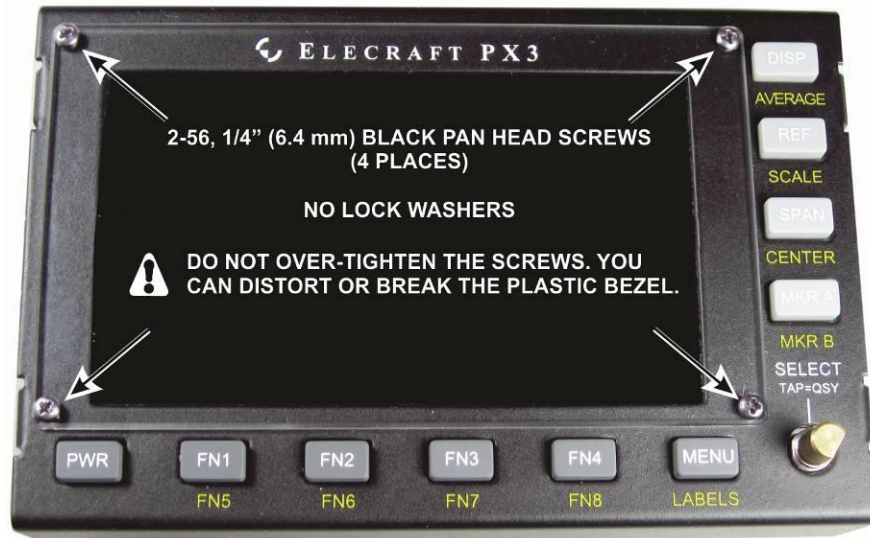
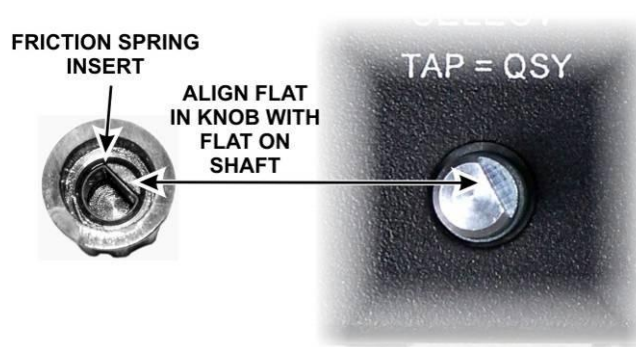

Figure 33. PC Board and Bezel Mounted on Front Panel.
Figure 34. Installing the Knob.
□ Hold the front panel board face up so the LCD does not become dislodged and place the front panel sheet metal and bezel over it as shown in Figure 33. Insert the front panel board from the back of the sheet metal, angling it as needed to fit past the narrow part of the panel. Place the bezel on top of the front panel sheet metal and secure it as shown, threading the screws through the bezel, top cover and into the standoffs you installed earlier on the front panel board. Do not use lock washers. **Do not over-tighten the screws. You can distort or break the bezel.**
□ Check to ensure the knob has its spring insert in place, then press it onto the shaft. Be sure the flat on the shaft is aligned with the flat surface in the knob (see Figure 34). The control has a built-in switch so do not be surprised to hear a click when you press the knob onto the shaft. The knob will stand above the surface of the front panel to allow room for the knob to move when operating the switch. Also, some side-to-side movement of the knob is normal in a control of this type with a built in switch.
⚠ If the connectors do not line up with the holes as shown, be sure you mounted the plastic bezel on the outside of the front panel as shown in Figure 33 on page 55.
To remove the front panel board and gain access to the LCD, remove the knob (see Figure 34 on page 55) and the four screws on the plastic bezel (Figure 33). That will free both the front panel board assembly and the plastic bezel. Take care not to scratch the bezel or lose the screws. You will need to tilt the front panel board assembly to remove it from the front panel sheet metal.